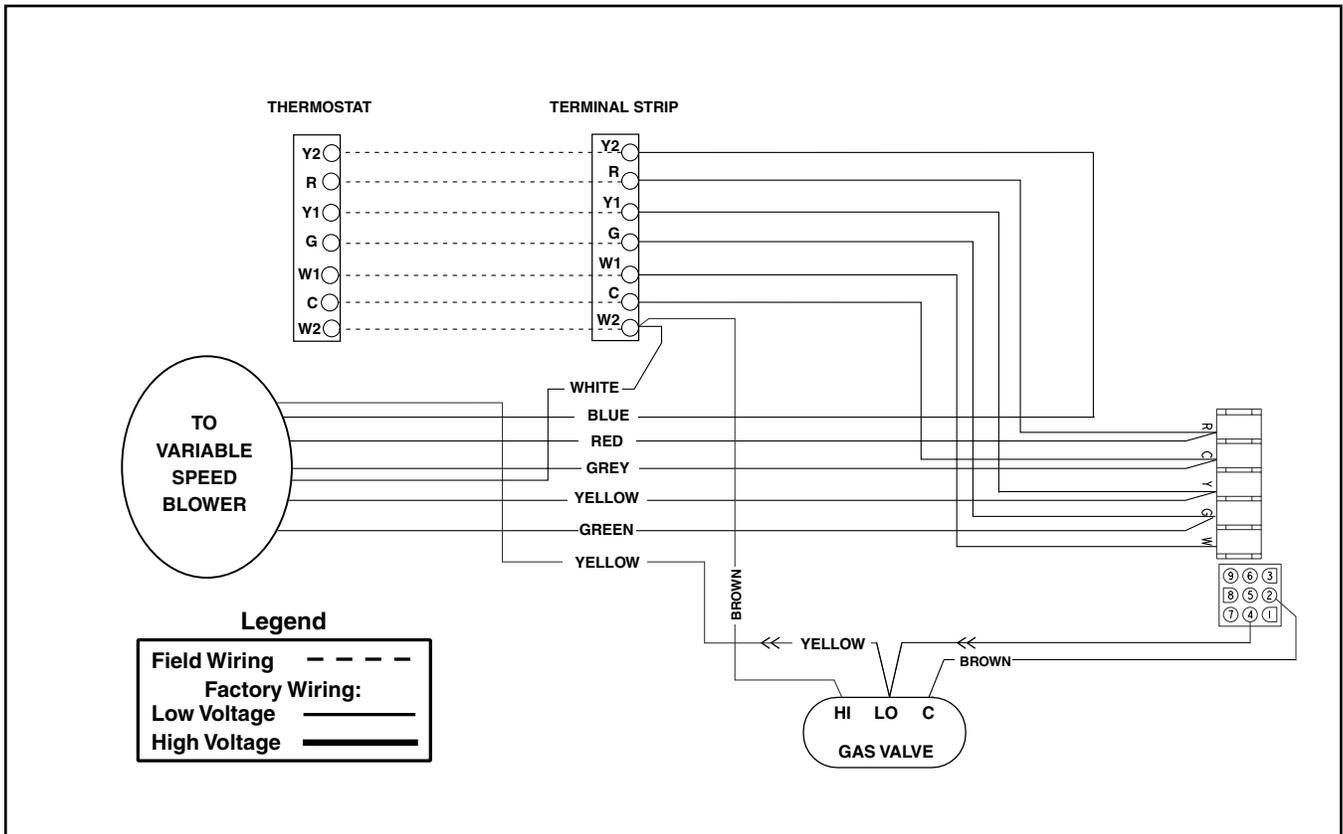

Figure 8b. Two Stage Heating/Two Stage Cooling Configuration (See Page 12 under Heating Configurations)
2. *Two stage heating thermostat configuration* – For this installation a two stage heating thermostat is used. **CAUTION:** To configure this unit for two stage heating, remove the brown jumper wire from W1 to W2 on the terminal strip and move brown wire from low side of gas valve to W2 on the terminal block. Connect W2 to two stage thermostat (**See Figure 8b**). On a call for first stage heat, the